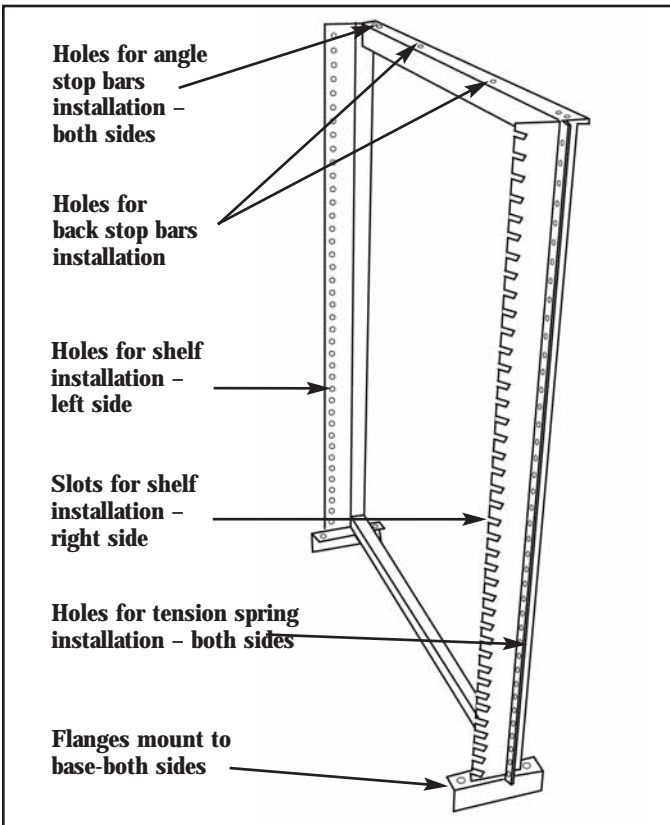

Figure 5. Back Frame features.
2. Insert the axle into the hole provided on the left side of the back frame (Figure 5). The spacing washers must rest against the inside face of the back frame.
3. Insert the other end of the axle into the slot on the right side of the back frame (Figure 5).